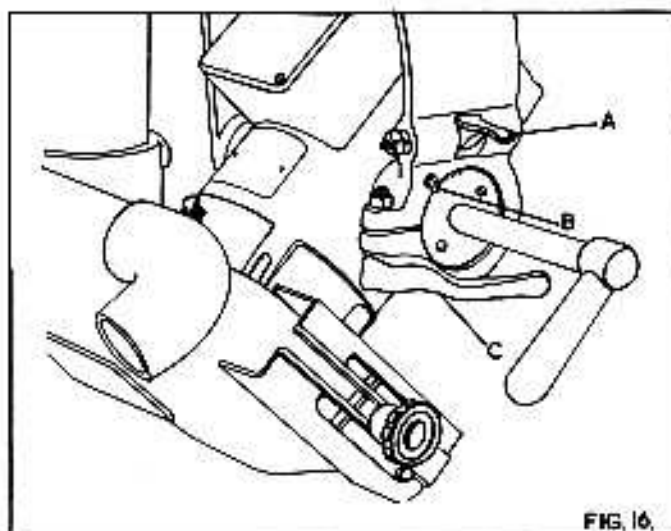

FIG. 16.
2. Ensure the motor locating latch "A" in Fig. 8, the stirrup locating latch "B" and the carriage locking screw "C" in Fig. 16 is securely locked.
The motor swivels within the stirrup through 90° . The principle angles are located by a tapered latch "A" in Fig. 16.